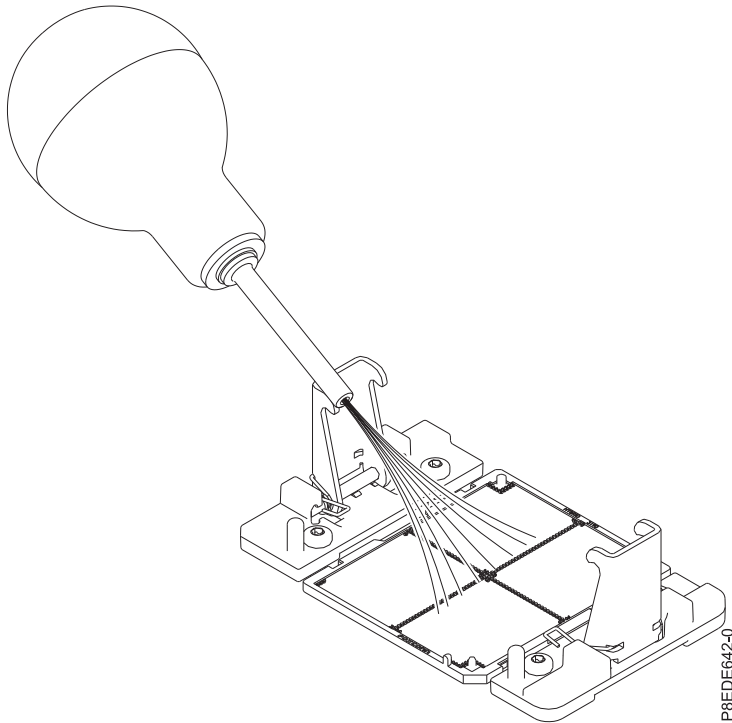

Figure 76. Removing dust and debris from the system processor socket
11. If dust or debris is present on the system processor socket, use the supplied air pump (part number 45D2645) to clean the socket. If your air pump is not assembled as shown in Figure 76 on page 78, fasten the tip onto the bulb. Blow small bursts of air from the center toward the sides of the socket, as shown in Figure 76 on page 78.